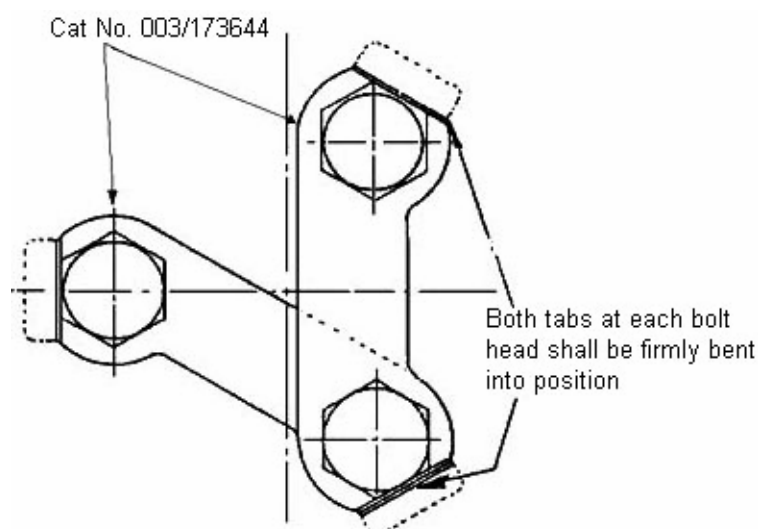

Figure 19.1: Method of Fitting Locking Plates to Axle Ends with Girling WSP
19.6 Secure each set screw (see Figures 19.1 and 19.2). Use adjustable rib-jointed pliers, (Cat No. 039/143220). Be careful not to bend the locking tabs against the corners of the set screw heads or break the tabs.